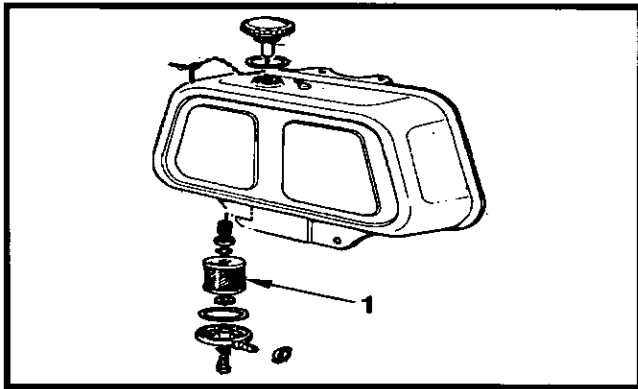

Figure 5-28 Engine Fuel Filter
Use the following procedure to service the fuel filter (1, Figure 5-28)
2. Reassembly the filter components, (refer to Figure 5-28). Replace any defective seals or component.